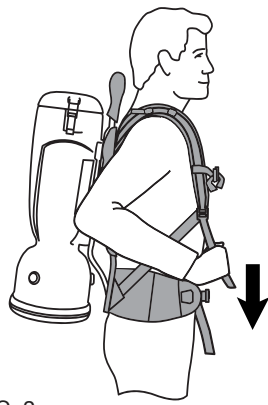

FIG. 2
2. Release the two latches and lift off lid. (Fig. 2)
4. Pull down the shoulder straps to tighten the backpack on your shoulders. (Fig. 2) Do not tighten too tight. The main weight of the vacuum should be on the hip belt. The anchor points of the shoulder straps should ideally be between the shoulder blades. Adjust the Vari-Quick height adjuster if necessary to properly place the vacuum to your back length.